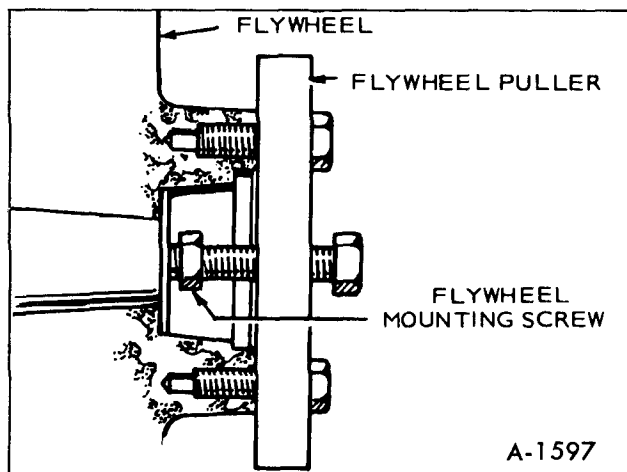

Figure 8—Flywheel Removal
2. Install a puller bar on the flywheel as shown in Figure 8.